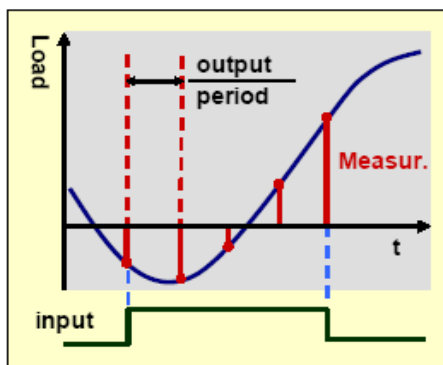

Fig. 4
9.2.2 Measurement window (fig.4) :